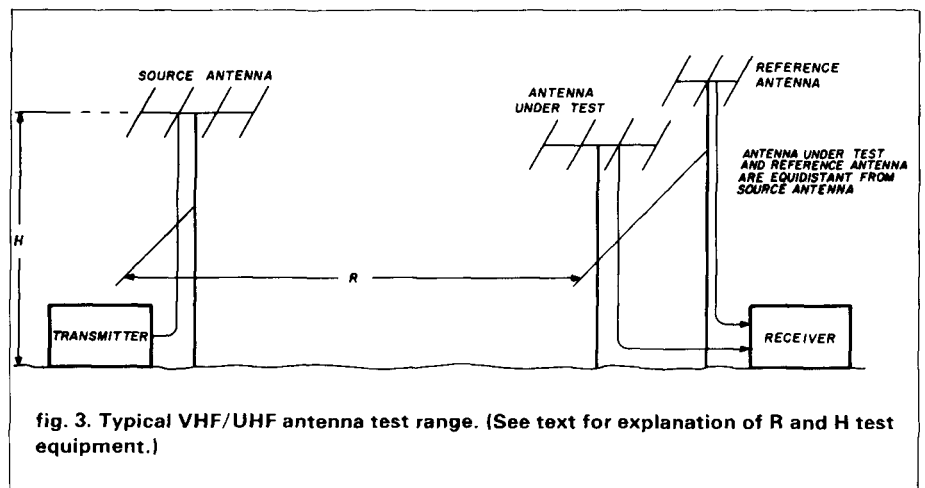

fig. 3. Typical VHF/UHF antenna test range. (See text for explanation of R and H test equipment.)
**Antenna Gain.** This is probably the parameter you are most interested in testing. Gain can be measured on an antenna range. (A typical antenna range is shown in fig. 3.) A low-power transmitter is set up at one end and the antenna under test at the other end of the range. The transmitter is usually low power (1 watt maximum) with 1 kHz amplitude modulation. Typical circuitry has been published16 for 144 MHz, and other frequencies through 432 MHz can be generated using the circuitry in my column in the March, 1984, issue of *ham radio*17. Note that the distance between the transmitter and receiver, "R," should be at least  $2D^2/\lambda$  where D is the largest aperture dimension of the antenna and  $\lambda$  is the free space wavelength in the same units as D. I find that this yields only a 1.0 dB accuracy and hence I recommend  $10D^2/\lambda$ , which should yield 0.2 dB or better accuracy. "H" is the